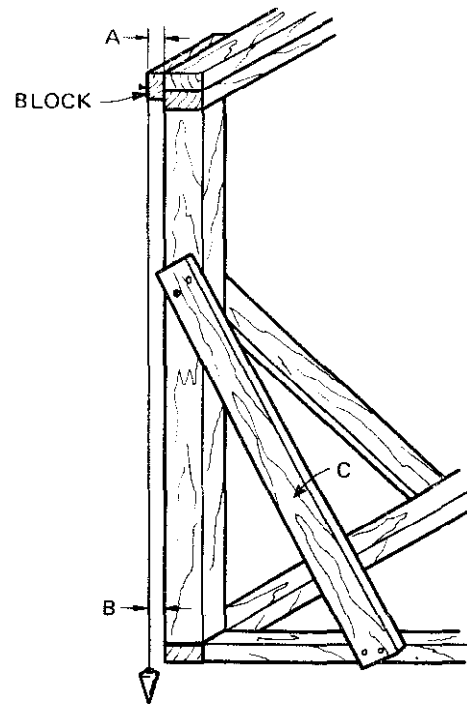

Fig. 5-11 Plumbing a surface
3. Prepare another block the same thickness as at A in figure 5-11. Use the block to gauge the distance at point B.